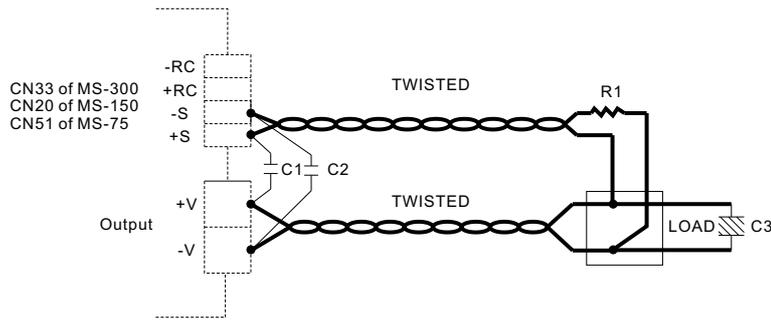

Figure 3-1 Connection for using the remote sense function
- ◎When using this function, the sensing wires should either be twisted or shielded to prevent external noise interference. (refer to figure 3-1)
- ◎If long sensing wires are necessary, then Noise Filtering Capacitors C1,C2 and C3 need to be added as figure 3-1.
- ◎The power supply unit may become unstable due to the difference in wire impedance and load current. The addition of C1, C2, C3 and R1 shown in figure 3-1 may help improve output voltage stability. Please contact MEAN WELL for more detail specification of these components.